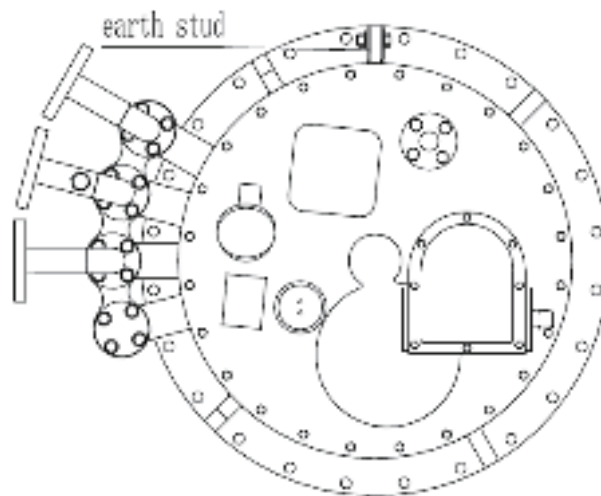

Figure 8.1.3
8.1.2.1 Connect the ground bolt of the tap changer head to the transformer cover (1 piece of M12 bolt and nut), No. 19 wrench, torque 50~60 N·m, Figure.8.1.3.